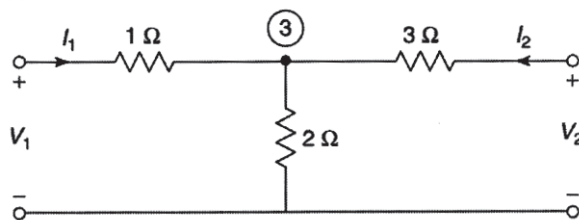

Fig. 2
b) Find Y-parameters for the network shown in Fig. 2 [6]